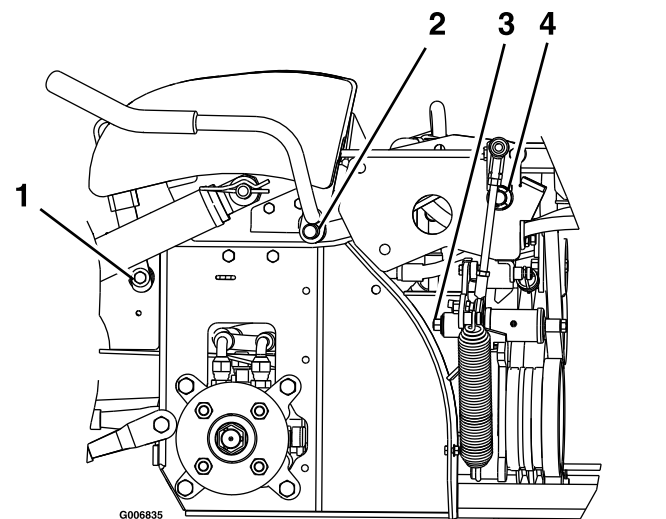

Figure 28
2. Lubricate the bronze bushings on the brake-handle pivot with a spray type lubricant or light oil (Figure 28).